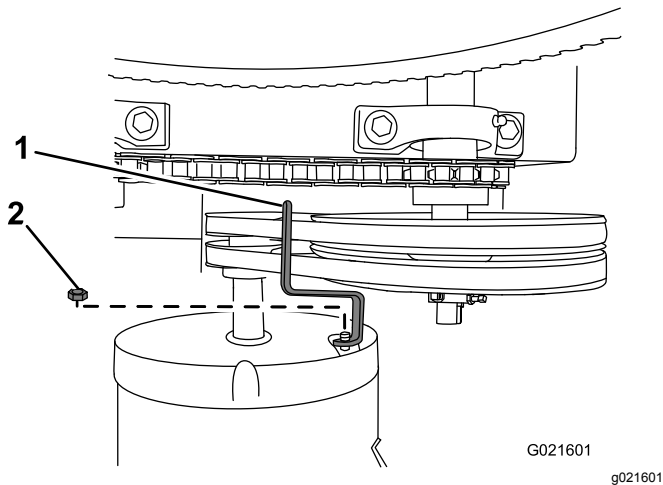

Figure 37
- Remove the nut that secures the belt guide to the motor, and remove the belt guide (Figure 37).
- Loosely secure the belt guide to the motor (Figure 37) with the bolt that was removed in step 3 of Removing the Belts \(page 29\).